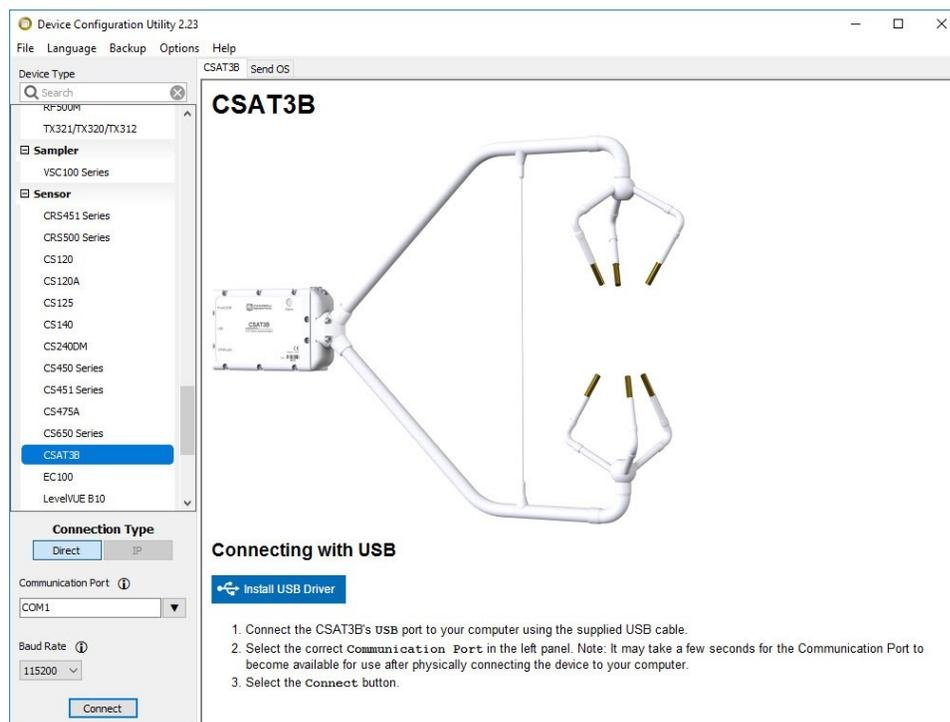

Figure 6-1. Connecting CSAT3B using *Device Configuration Utility*
4. From the left side of the main screen, select the CSAT3B (note that there is no CSAT3B selection, since the CSAT3B functions like a CSAT3B when communicating with *Device Configuration Utility*) among the list of sensors. Select the appropriate communication port and baud rate (refer to the left side of Figure 6-1 (p. 19)).
5. If this is the first time the computer has connected to a CSAT3B, and depending on the computer settings, the USB driver may need to be manually installed. To do this, make sure the computer is connected to the internet and click **install the USB driver** link as shown in Figure 6-1 (p. 19)).